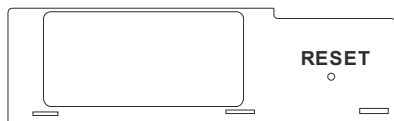

Figure 58
1. Press and hold, using a pointed object, the receiver's reset button until you hear two acoustic signals (see **Figure 58**).